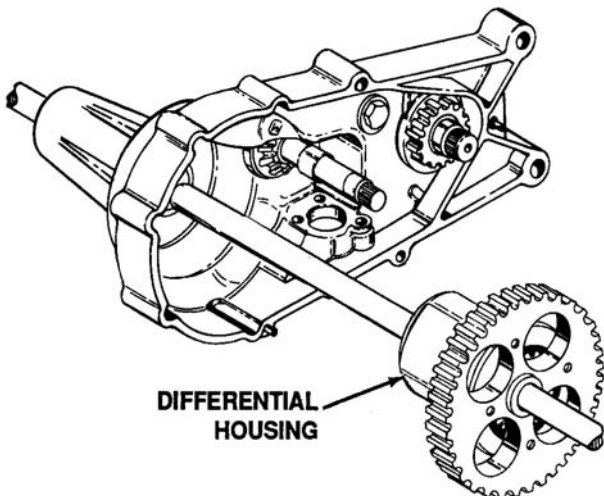

Figure 5-109. Differential Removal
13. Remove differential assembly from housing half. See Figure 5-109.